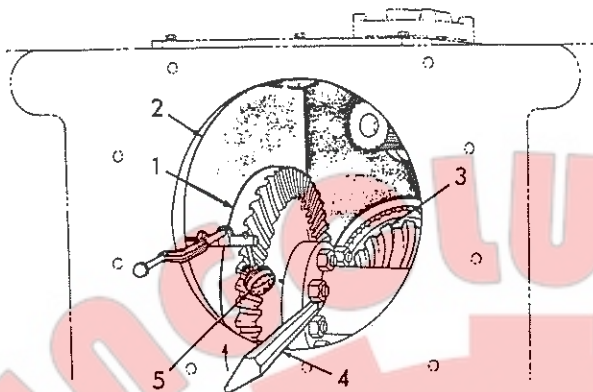

Fig. 16 Checking Backlash Between Bevel Gear and Bevel Pinion (T-70855)
a. Refer to Fig. 16; position dial indicator as shown. Block bevel pinion solid. Insert small pry bar and rotate gear back and forth; total gear movement (gear freeplay), as indicated by reading on dial indicator, is backlash; if desired, dial indicator may be mounted so reading can be taken from bevel pinion. Check backlash at four points (90° apart) around gear; block bevel pinion solid each time if reading is being taken from bevel gear.